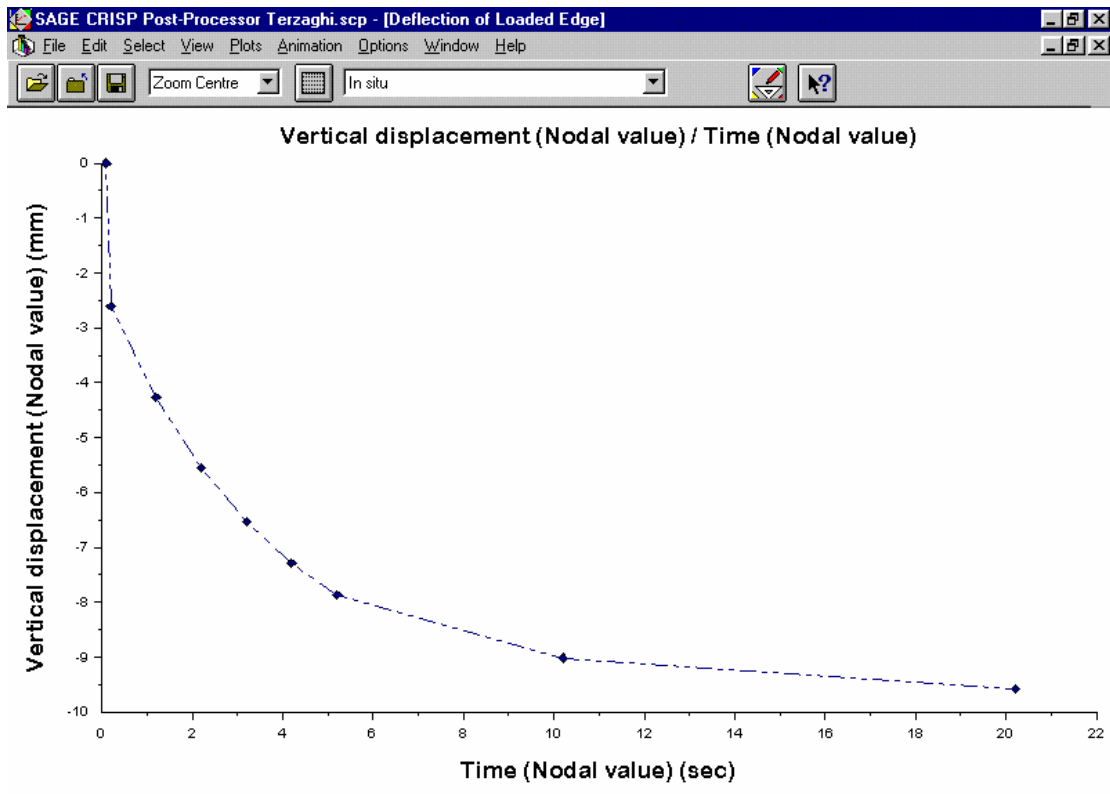

Figure 2-22: Graph Showing Vertical Deflection of the Sample
- Step 6** Click on **OK** to exit once you have finished. The graph will be displayed with a configuration that depends upon your default settings. It should look similar to Figure 2-22.